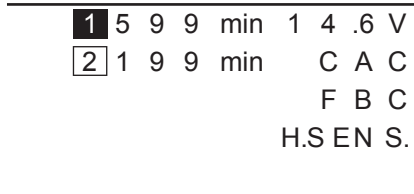

Fig. 1
- 2 Turn the <POWER> switch <ON>, and check the battery charge level indicator on the viewfinder screen. (Fig. 1)**